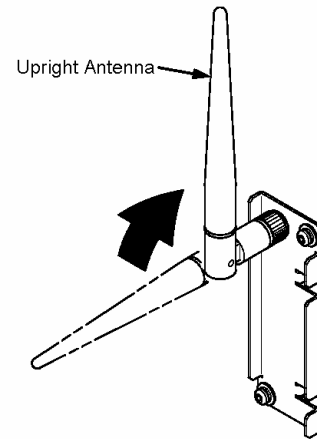

Figure 2b. Positioning the WLAN antenna
2. Rotate the antenna so that it points upward. (**Fig 2b**)